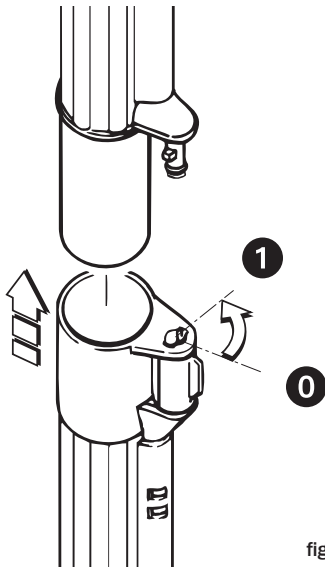

fig. 5
### Assembling the extension wands (fig. 5)
- Turn the button to the right to block the wand in position (position 1 of Fig. 5).